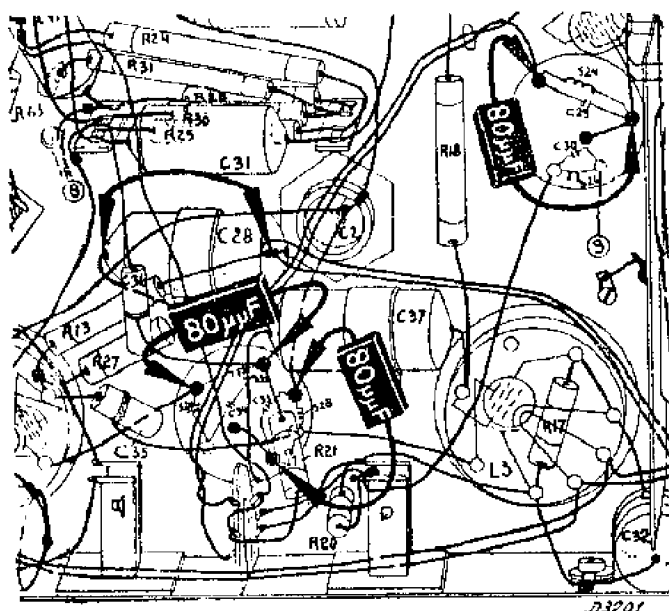
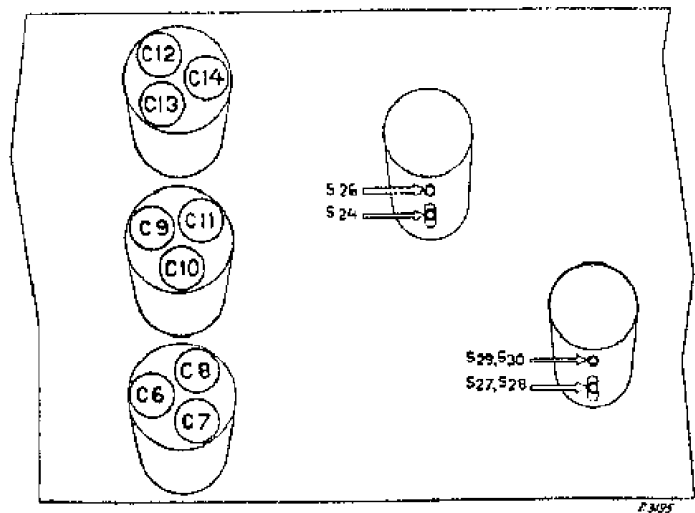

Fig. 2.
Fig. 4.
2. Turn volume control to maximum and cut out the A.V.C. by short-circuiting C28 (see Fig. 2).
5. Detune the 3rd I.F. circuit with a condenser of 80 $\mu\mu\text{F}$ in parallel with S27 + S28 (Fig. 2) and adjust S29, S30 in the 4th I.F. circuit (Fig. 4).
6. Detune the 4th I.F. circuit with 80 $\mu\mu\text{F}$ in parallel with S30 (Fig. 2) and adjust S27, S28 in the 3rd I.F. circuit (Fig. 4).
7. Detune 1st I.F. circuit with 80 $\mu\mu\text{F}$ in parallel with S24 (Fig. 2) and adjust S26 in the 2nd I.F. circuit (Fig. 4).
8. Detune 2nd I.F. circuit with 80 $\mu\mu\text{F}$ between top of L3 and chassis and adjust S24 in the 1st I.F. circuit (Fig. 4).